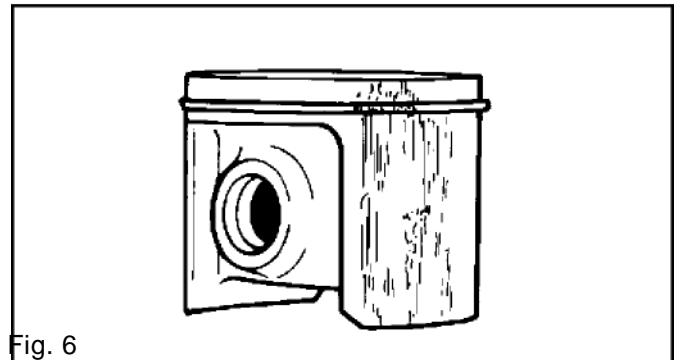

Fig. 6
9. Fit the bolts (C and D), chain catcher and travel limiter bolt (E) on the clutch side. See fig. 6. Tighten the bolts to the torque shown on the diagram.
Score marks on the piston. Fig. 6.
- B. Remove the bush from the chain brake pivot (B). See fig. 6.